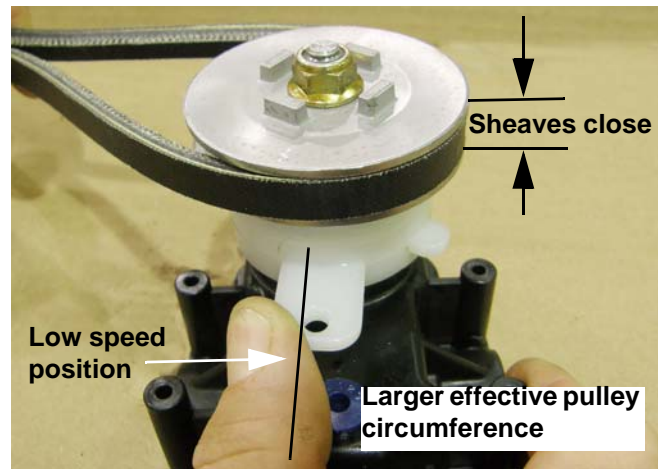

Figure 4.50
- Then the sheaves are close together the circumference of the belt contact patch on the pulley is greater. This means that each revolution of the crankshaft pulley will result in a relatively fewer number of revolutions of the input pulley of the transmission. This will drive the wheels with less torque, but more ground speed than when the sheaves are spread. See Figure 4.50.